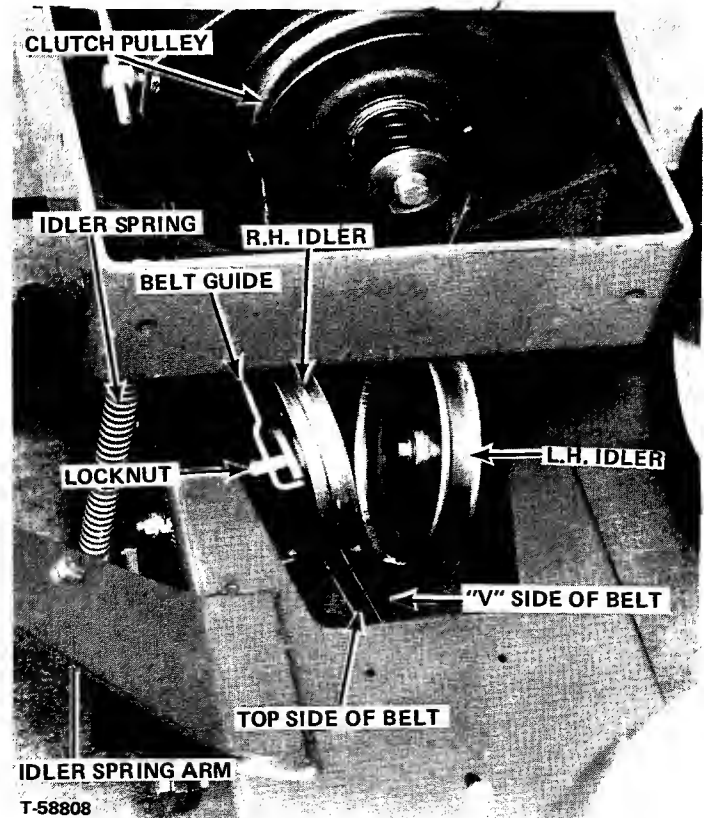

FIGURE 10
5. Loosen locknut that holds belt guide to right hand idler pulley and pass the belt from the top of the auger driven pulley on the snow thrower under the right hand pulley and up toward the clutch pulley with top side of belt against the right hand idler pulley as seen in Figure 10.
6. Pass the belt from the lower side of the auger driven pulley over the bottom of the left hand idler pulley and up toward the clutch pulley with "V" side of belt in left hand idler (Figure 10).